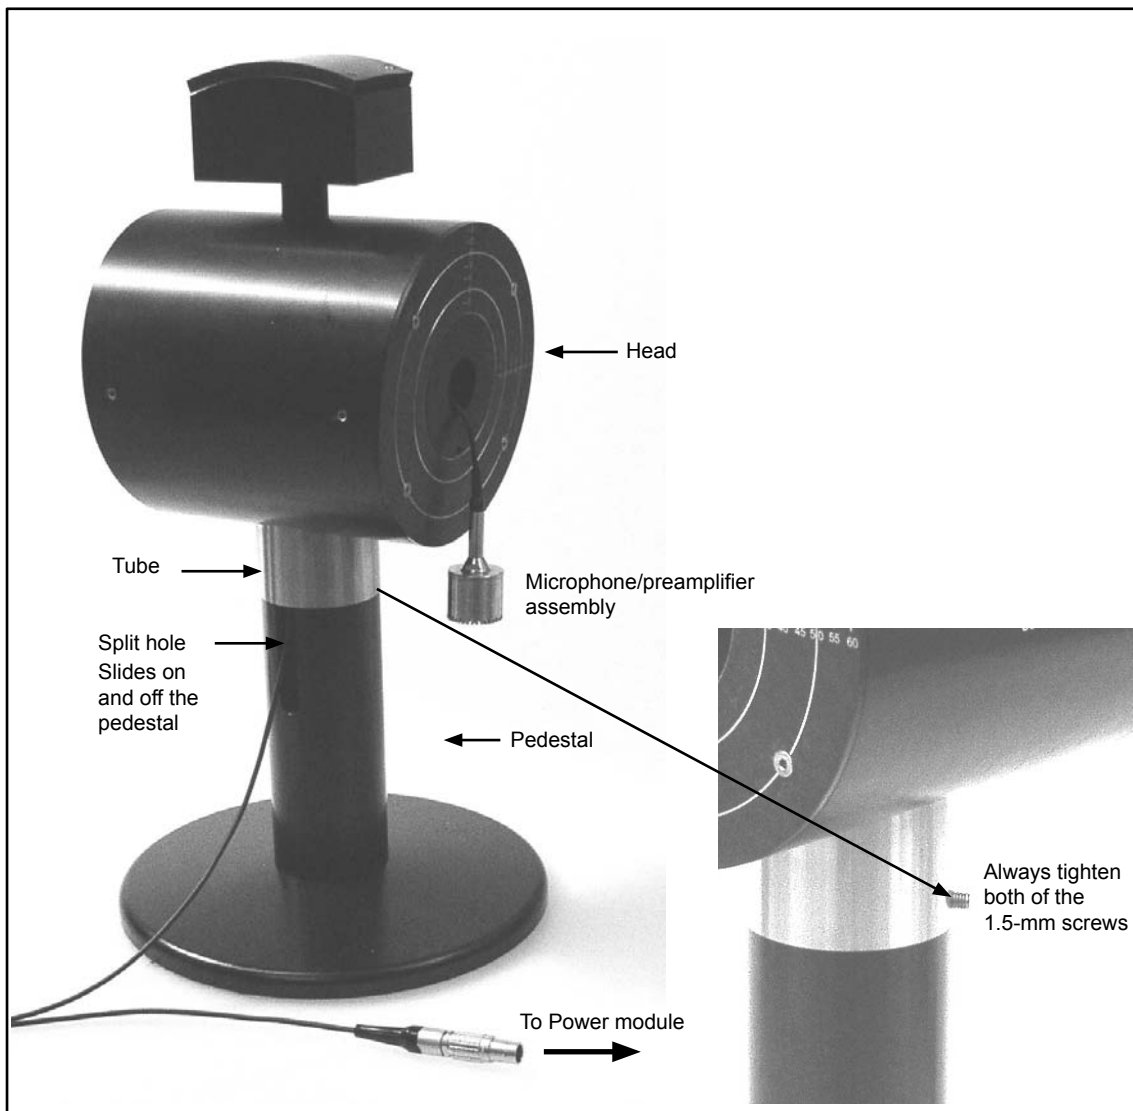

Fig. 4.10 Cabeling for the microphone-preamplifier assembly
8. Replace the head onto the pedestal (Fig. 4.10)